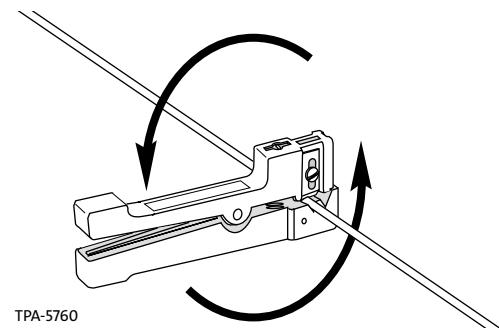

Figure 8
- Hold the cable steady with one hand to prevent it from twisting. Use your other hand to rotate the tool one complete turn around the cable sheath to score it (Figure 8). Remove the tool from the cable.